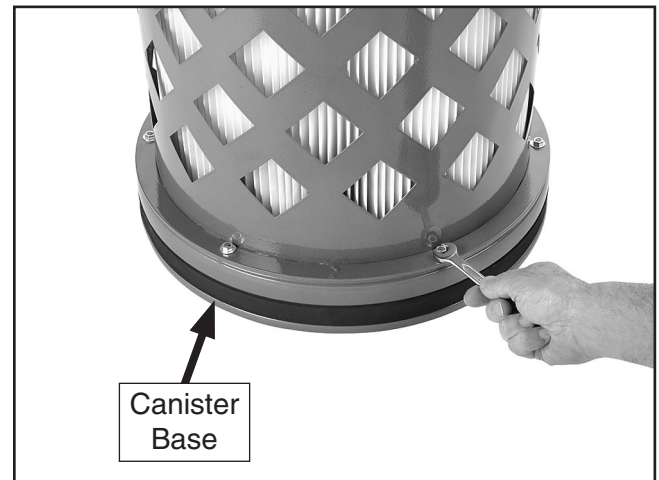

Figure 63. Removing the hex nuts and flat washers from the rim of the canister base.
5. Remove the six hex bolts, hex nuts, and flat washers from the rim of the canister base, as shown in **Figure 63**.